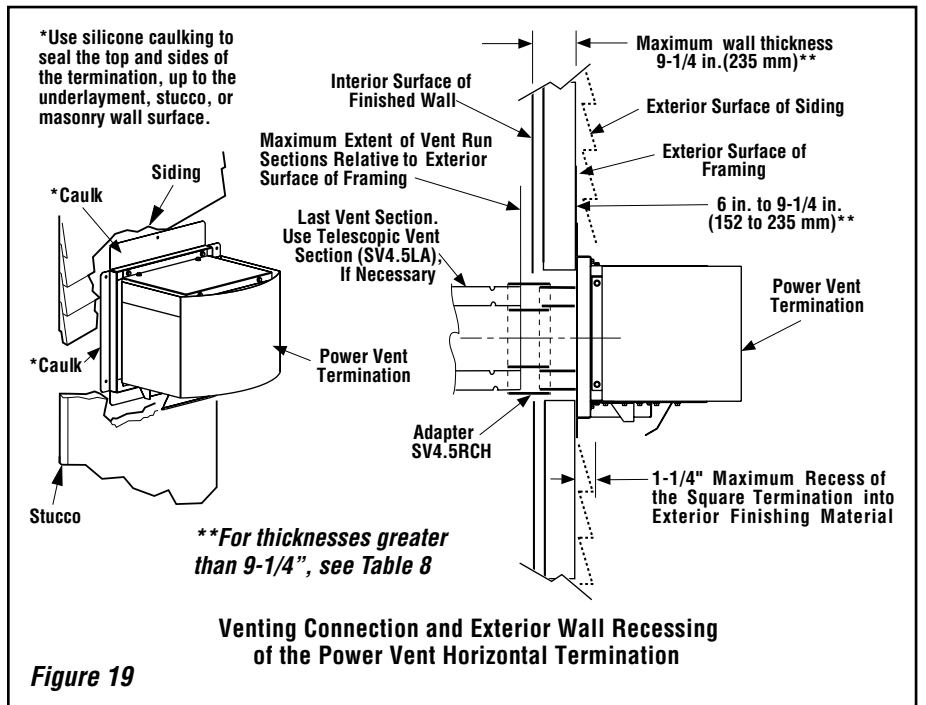

Figure 19
J. Assemble vent run to exterior wall - If not previously measured, locate the center of the vent on the exterior wall. Prepare an opening as described in this manual. Assemble the vent system to a point where the terminus of the last section is within 8 inches of the outside wall surface where the power vent is to be mounted (refer to **Figure 19 on Page 17**).
If the terminus of the last section is not within this distance, use the **telescopic vent section SV4.5LA**, as the last vent section. For wall thicknesses greater than that shown in **Figure 19 (Page 17)**, refer to **Table 8 (Page 17)** for the additional venting components needed (in addition to the termination and adaptor) for a particular range of wall thicknesses.
For the last step, from outside the exterior wall, slide the collars of the termination onto the adaptor (the outer inside the outer and the inner outside the inner) until the termination seats against the exterior wall surface to which it will be attached. Orient the housing of the termination with the arrow pointed upwards. Secure the termination to the exterior wall. **The termination must not be recessed into the exterior wall or siding** by more than the 1-1/4" (32 mm) as shown in **Figure 19**.